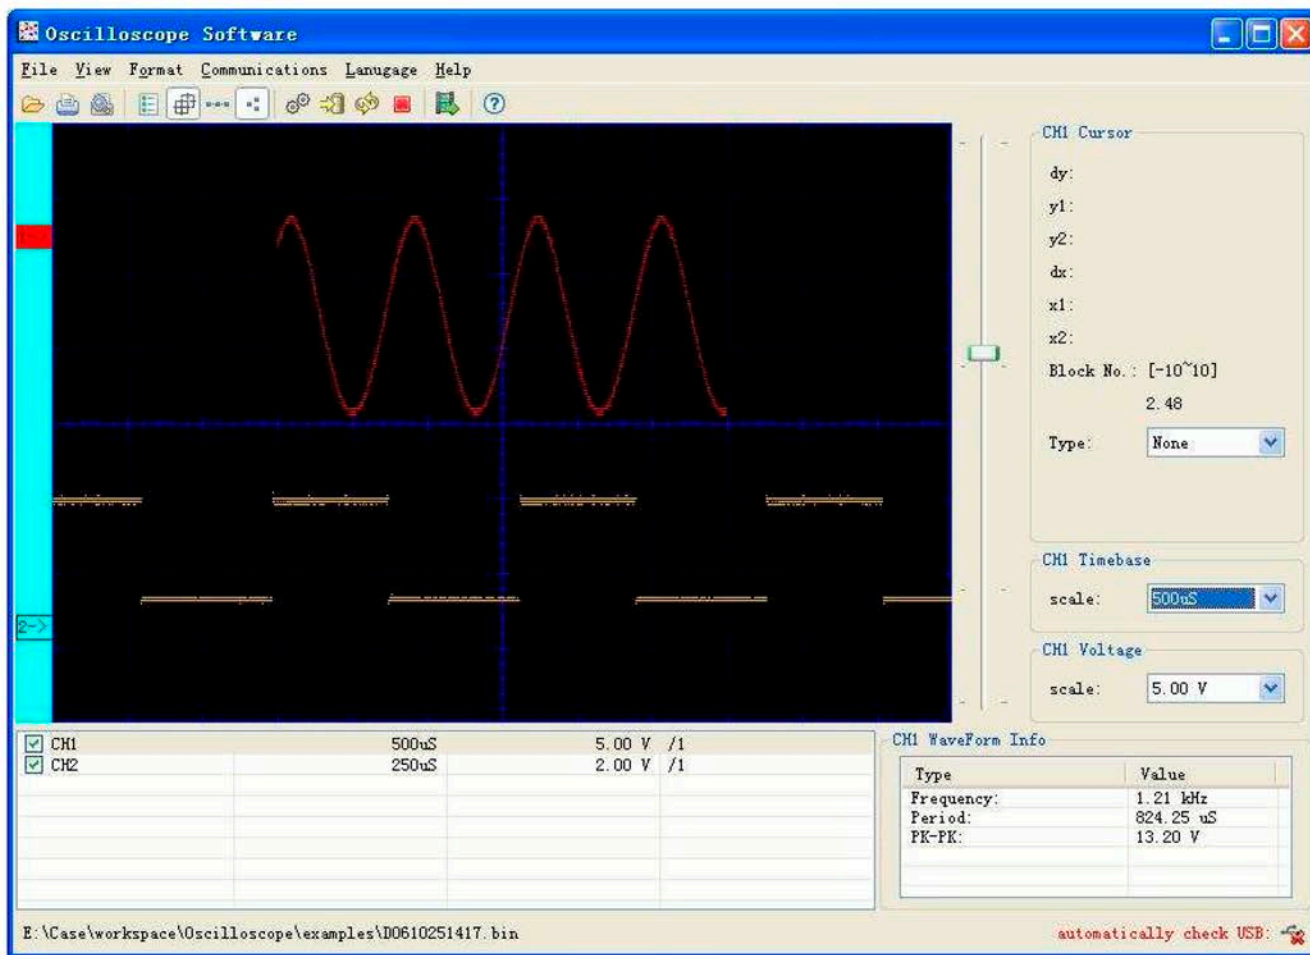
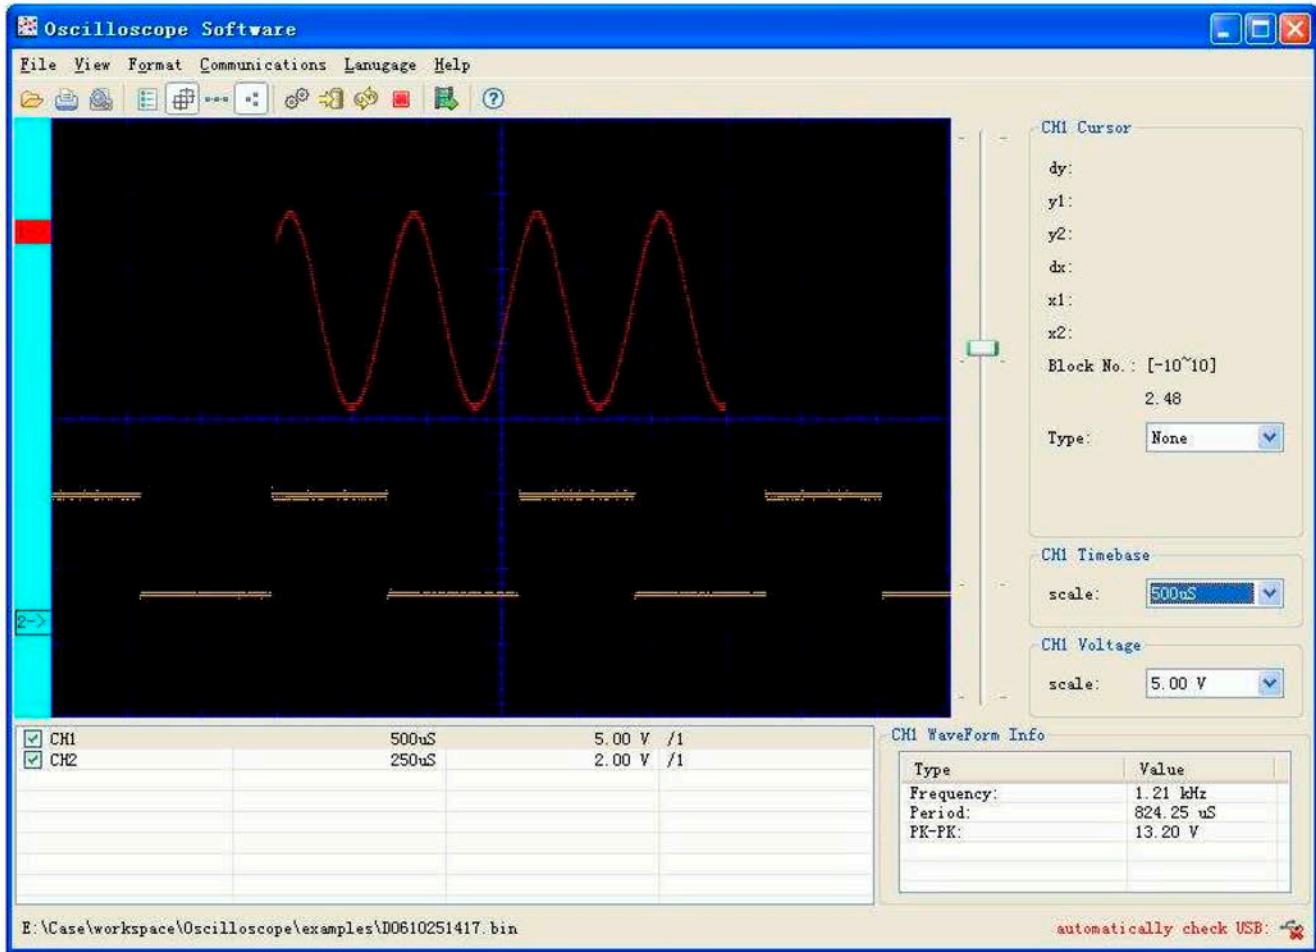

Fig 5-1-2
Fig 5-1-3
2). The time base division of current waveform can be shown and adjusted in such area (as Fig 5-1-2) which is the time range about one scale on the vertical line (8 scales in the following), and adjust the scale in the come box, the waveform zoom to the corresponding division with the centre scale mark as centre shaft.(Fig 5-1-3)
4. Double lines (Fig 5-1-3): The vertical line and the horizontal line are all in the waveform area and be measured at the same time.